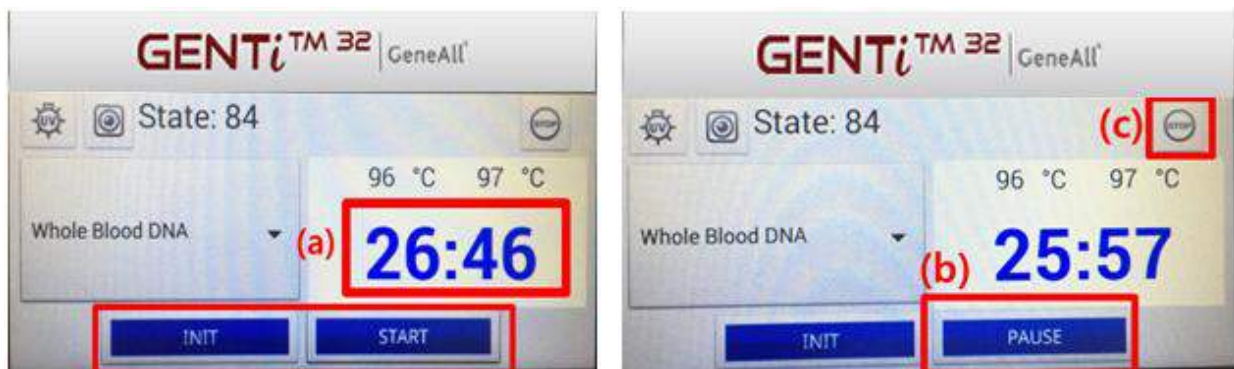

Figure 13. Procedure on touch screen
- B. Select the specific button for whole blood sample extraction as Figure 13 below. Select relevant icons for extraction of other samples depend on the applied kit.